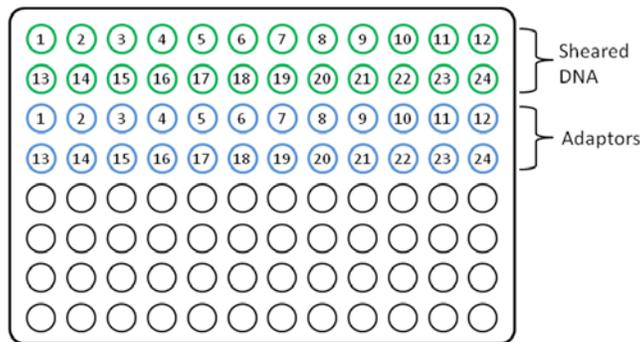

Figure 2 Eppendorf® 96/500-µL plate with sheared DNA and Adaptors
3. Transfer 110 µL for each sample to Eppendorf® 96/500-µL DNA LoBind plate as shown in Figure 2.